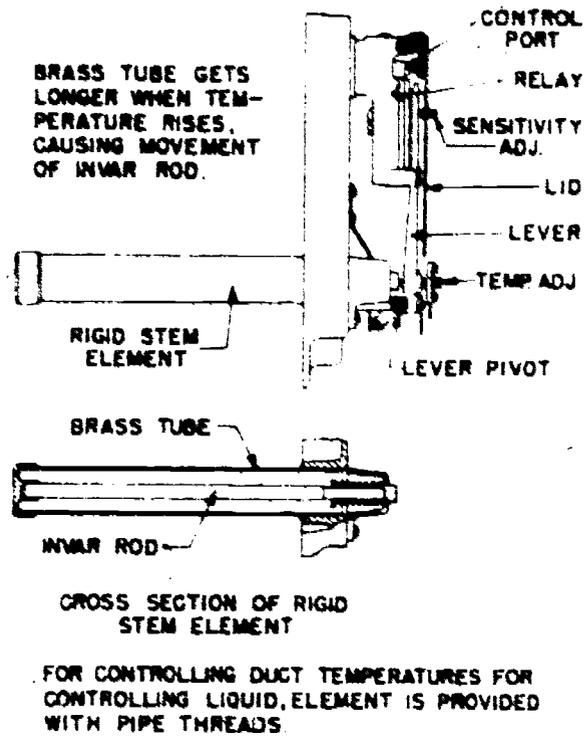

Figure 26.
**Rigid Stem (Insertion).** This type element uses dissimilar metals in a rod type form. The outer portion being brass with a high coefficient of expansion, and an inner rod of invar. Invar is a metal composed of 36 percent nickel and steel, it has a negligible coefficient of expansion. With an increase in temperature the brass extends moving the invar rod away from the leakport decreasing control air. As the temperature decreases the brass contracts moving the invar rod over the the leakport increasing control pressure. See figure 26.